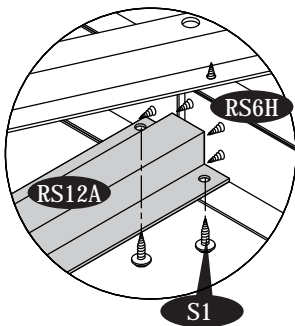

Fig.1
11. Remove the roof structure support (RS12A) from (RS6H) & (RS7H). See fig.1. Remove (RS11A) from (RS6H) & (RS7H). See fig.2.